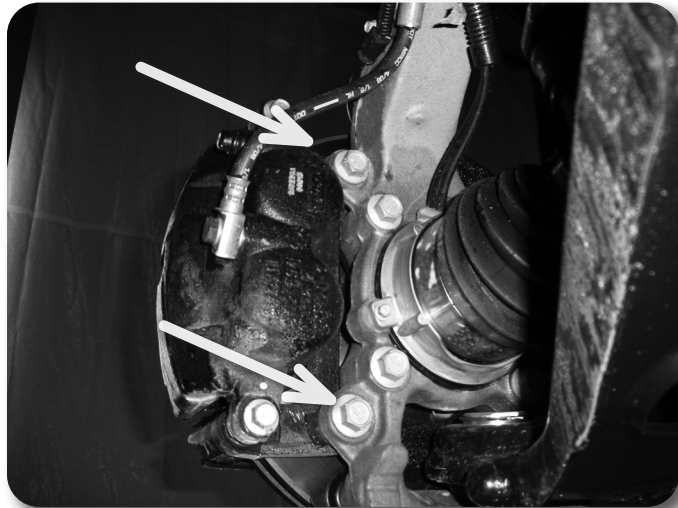

Figure 2
5. Remove the brake caliper anchor bracket bolts and remove the caliper from the knuckle **Figure 2**. Hang the caliper out of the way. Do not let the caliper hang by the brake hoses.